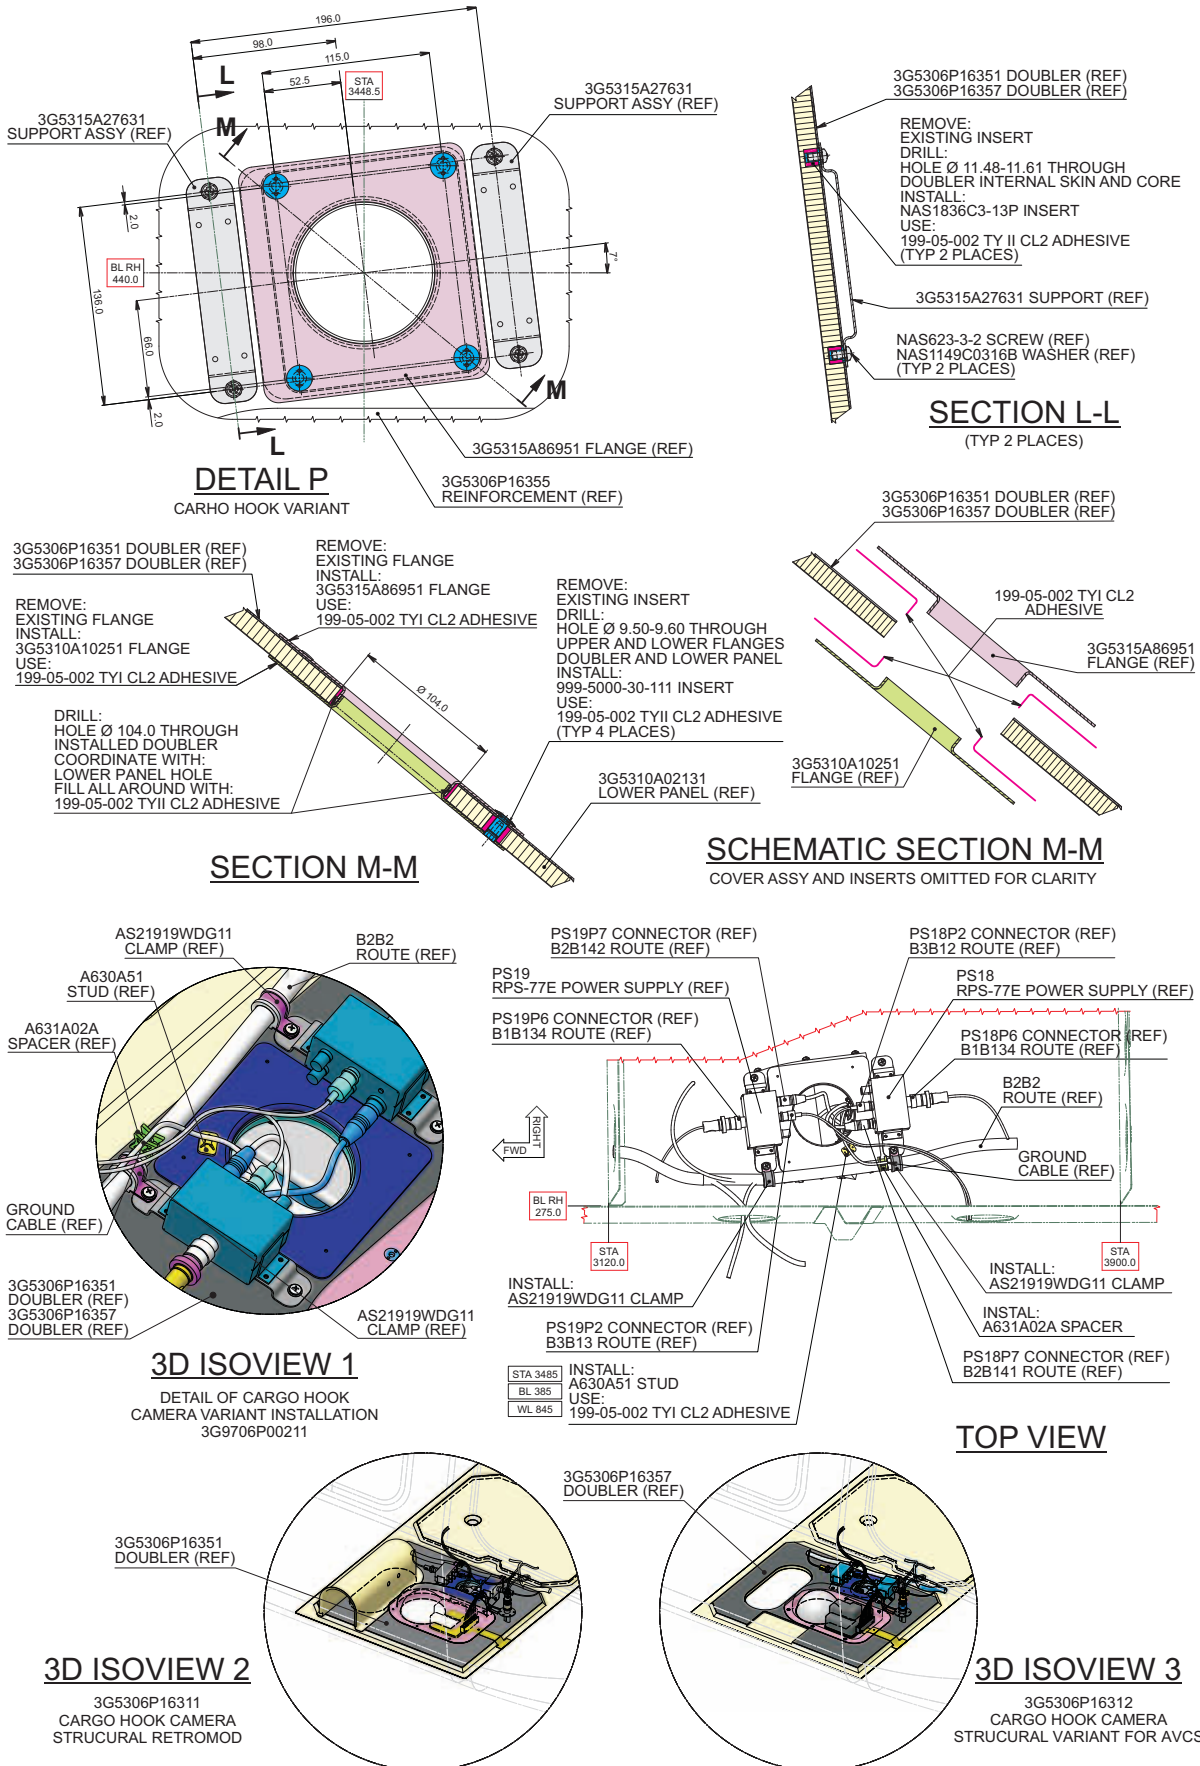

Figure 5
- 5.14 With reference to Figure 5 section M-M and in accordance with CSRP DM CSRP-A-51-42-00-00A-720A-D, install n°4 inserts P/N 999-5000-30-111 by means of adhesive EA934NA (C057). Let adhesive cure at room temperature for at least 24 hours.
- 5.15 With reference to Figure 5 section L-L and Top view, install the n°2 supports assy P/N 3G5315A27631 and n°2 clamps P/N AS21919WDG11 by means of n°4 screws P/N NAS623-3-2 and washers P/N NAS1149C0316B.
- 5.16 With reference to Figure 5 Top view, install stud P/N A630A51 in the indicated position on the upper flange P/N 3G5315A86951 by means of adhesive EA9309NA (C231). Let adhesive cure at room temperature for at least 24 hours.
- 5.18 With reference to Figure 5 Top view and 3D isoview, secure the B2B2 route by means of installed clamps.
- 5.19 With reference to Figure 5 Top view and 3D isoview, to avoid chaffing, secure the indicated ground cable to B2B2 route and to installed stud, by means of spacer P/N A631A02A and tie-straps or lacing cord P/N 900004953.